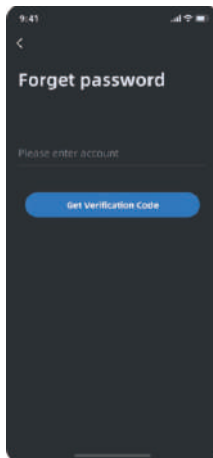

Figure 1
- 1) Figure 1: If you forget your password, you can reset it through **"Forgot Password"**. Click **"Forgot Password"** on the login page, enter your registered account and click **"Get Verification Code"** to enter the verification code page.